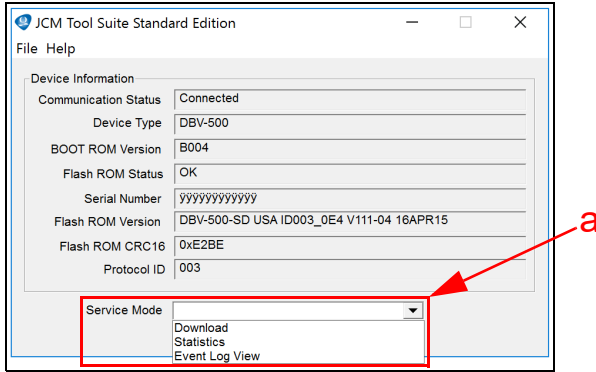
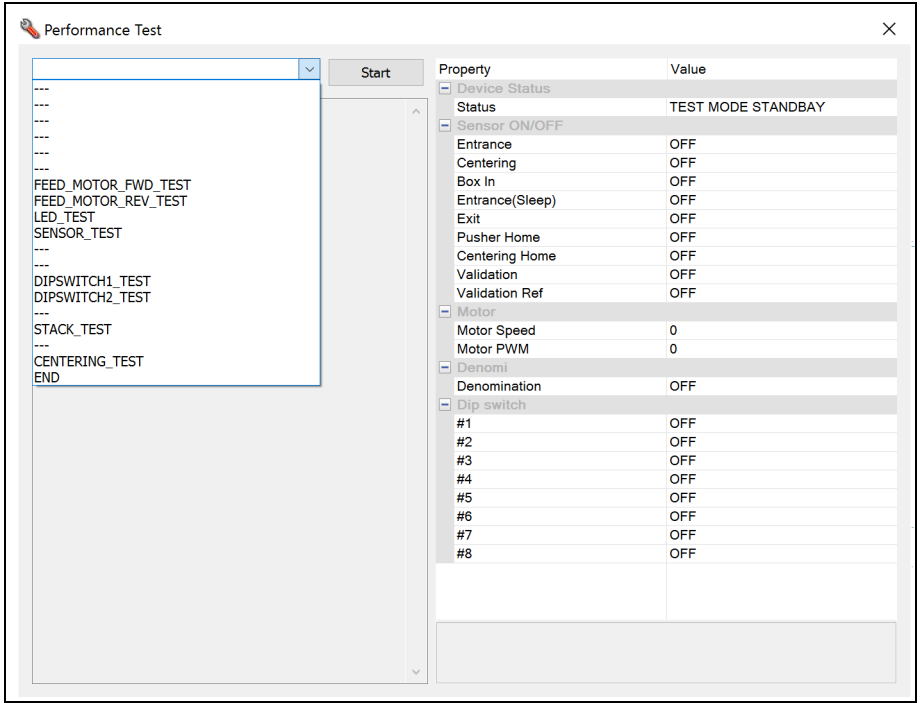

Figure 5 JCM Service Mode Drop-Down Menu
Figure 7 JCM Tool Suite Performance Test Window
1. Click the “Service Mode” drop-down menu (Figure 5 a), then click “Download.”
7. Click the Service Mode drop-down menu (Figure 5), then select Performance Test (refer to Figure 7 on the following page).